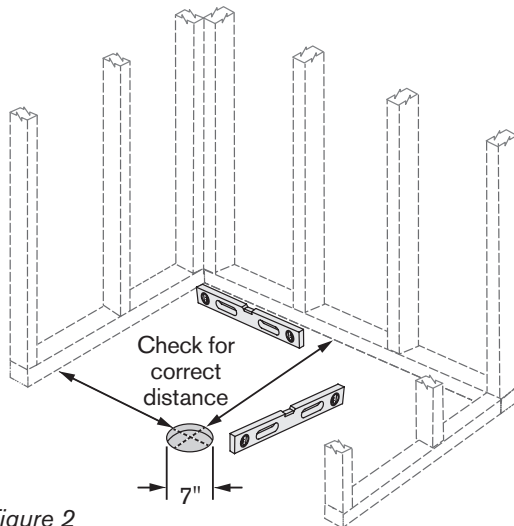

Figure 2
- 1 Check shower pocket area for level and for correct dimensions. Make sure drain hole in floor is the correct distance from studs and 7" diameter (or 7" x 7" square). The floor must be within 1/8" of level, especially around drain box-out. (Figure 2)